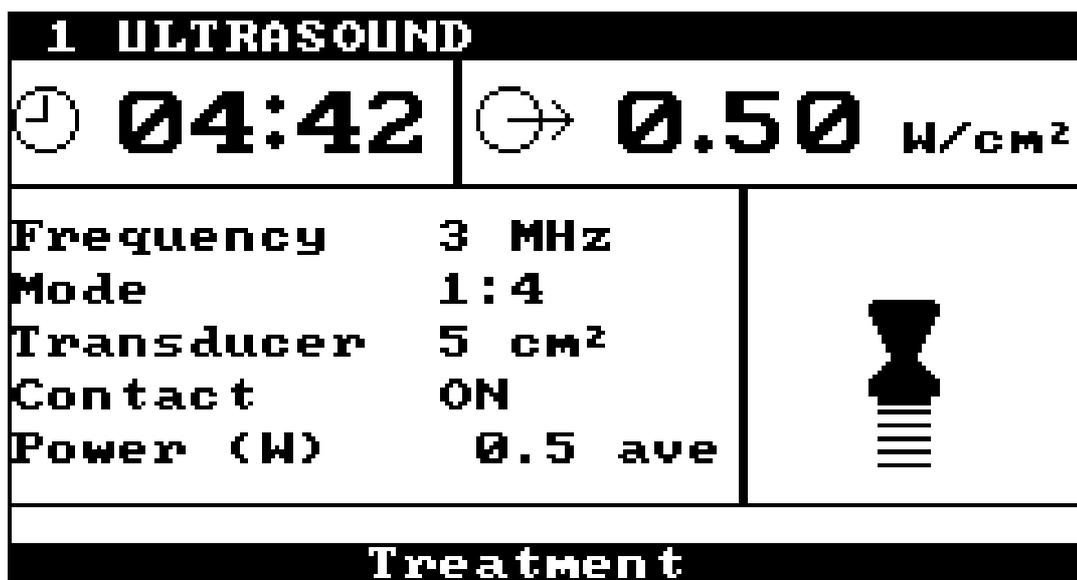

Figure 18 - Display during Treatment
- If all settings are valid then the word "Treatment" will flash at the bottom of the display, the treatment time will begin to count down (figure 18), the light below the socket to which the transducer is connected will light, and the treatment indicator on the transducer itself will light.